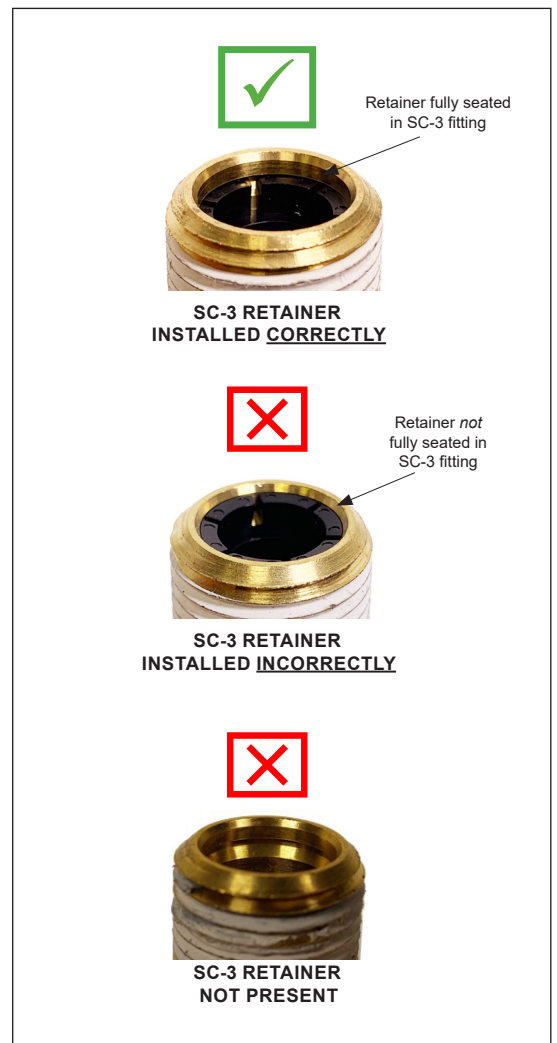

Figure 2 - SC-3 Single Check Valve Retainer (continued)
2. See *Figure 2*. Inspect the SC-3 single check valve retainer. If the retainer is fully seated, it is correctly installed and not affected by this recall campaign. If the retainer is not fully seated – or is missing, damaged, or the shuttle or the retainer are missing or fractured – the SC-3 single check valve falls within the recall parameters. The SC-3 single check valve needs to be replaced. If the shuttle or the retainer are missing (not located in the SC-3 fitting nor in the supply port of the SR-7 spring brake modulating valve) or fractured, the SR-7 spring brake modulating valve must be replaced as well.
2. See Figure 2. Inspect the SC-3 single check valve retainer. If the retainer is fully seated, it is correctly installed and not affected by this recall campaign. If the retainer is not fully seated – or is missing, damaged, or the shuttle or the retainer are missing or fractured – the SC-3 single check valve falls within the recall parameters. The SC-3 single check valve needs to be replaced. If the shuttle or the retainer are missing (not located in the SC-3 fitting nor in the supply port of the SR-7 spring brake modulating valve) or fractured, the SR-7 spring brake modulating valve must be replaced as well.